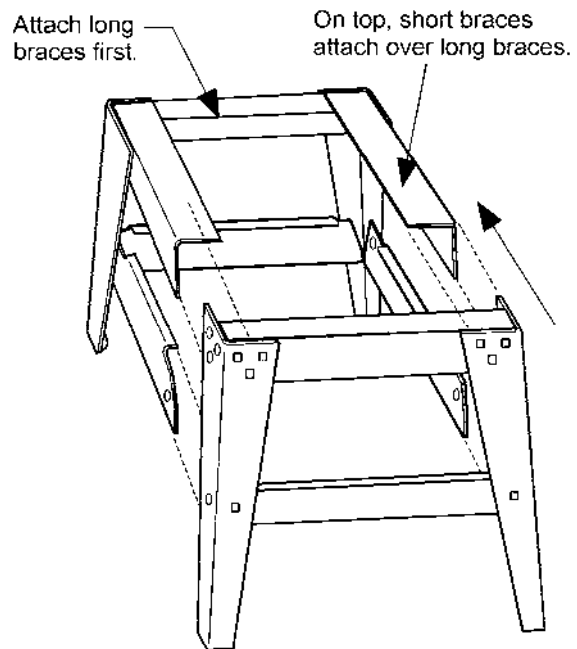

Figure 7
3. Complete the stand assembly by attaching the other set of legs as shown in Figure 7.